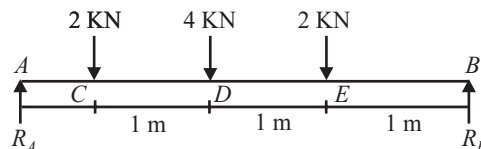

Fig 12.6
Q.8: Draw the SF and BM diagram for the simply supported beam loaded as shown in fig 12.6.